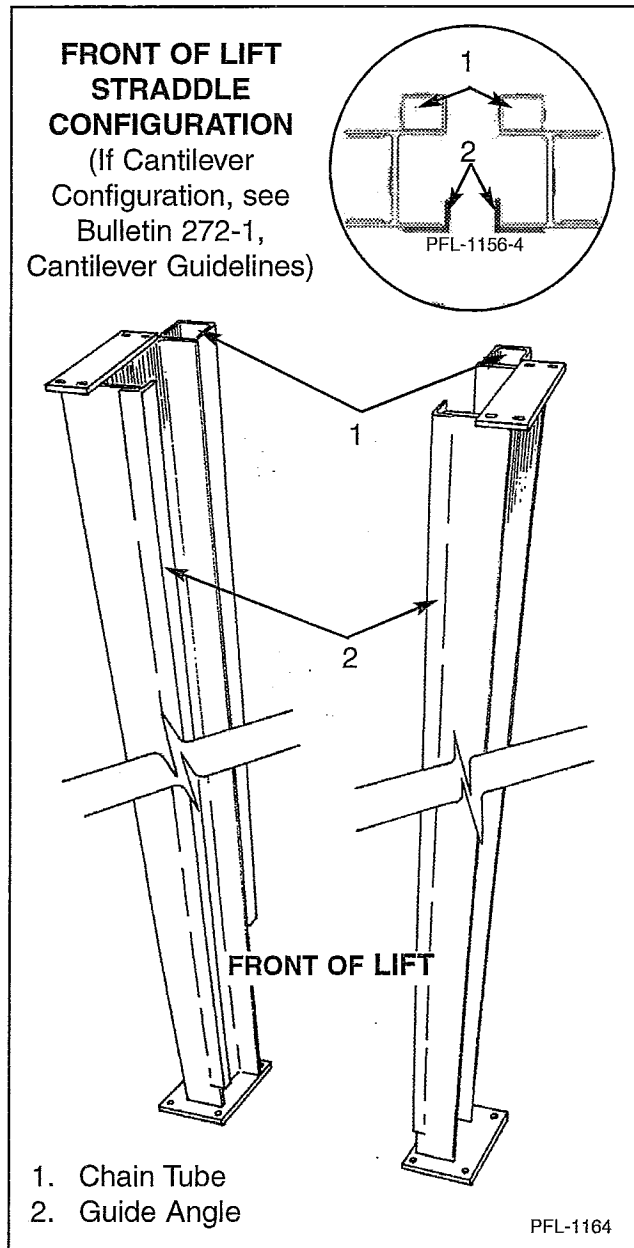

Figure 8
- Each column must be correctly installed. There is only one right way. The front of the lift for orientation is as follows: The face of the column with the guide angle to the inside of the column should be positioned toward the front of the lift. The face of the column with the chain tube should be positioned toward the back of the lift. See Figure 8.